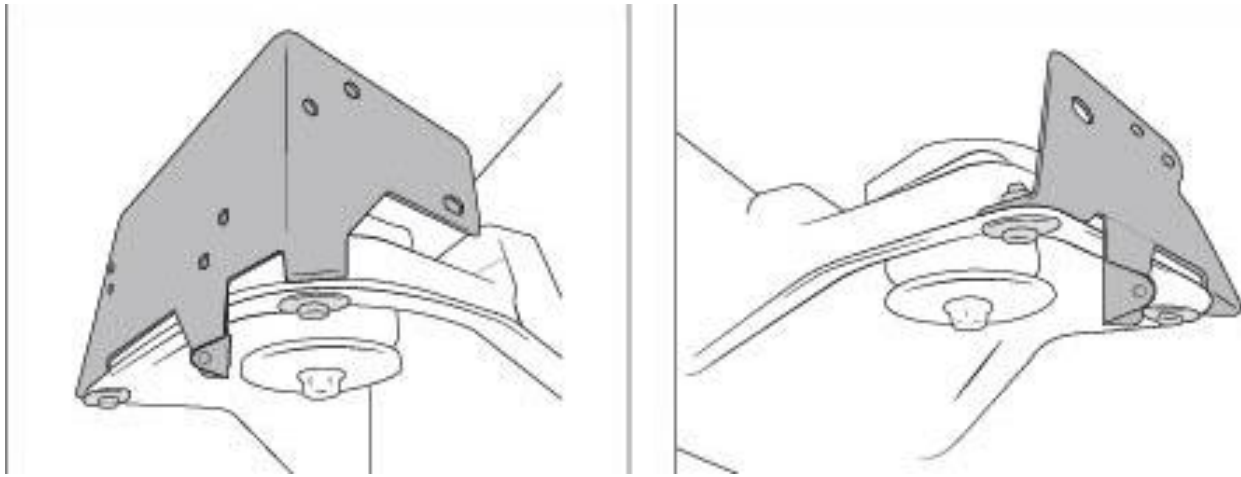

Figure 3: Passenger-side (left) Driver-side (right)
B) Install AEV harness retention brackets onto the body mounts on both sides of the vehicle using M6 x 1.0 hex bolts, washers, and flange nuts (fig.3).